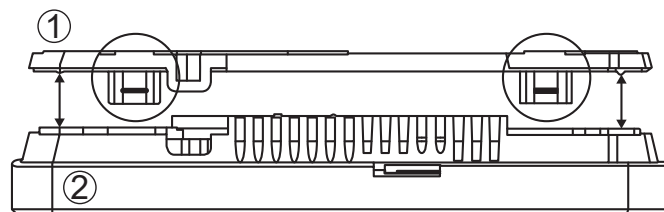

Figure 5-3: Touchscreen display & back plate
1. Remove the touchscreen display from the mounting plate. The plate is attached to the touchscreen with latches. Use a flat screwdriver to detach the plate. Refer to Figure 5-3.
1. Detach the mounting plate from the back of the touchscreen display. The plate is attached to the touchscreen with latches. Use a flat screwdriver to detach the plate. Refer to Figure 5-3.